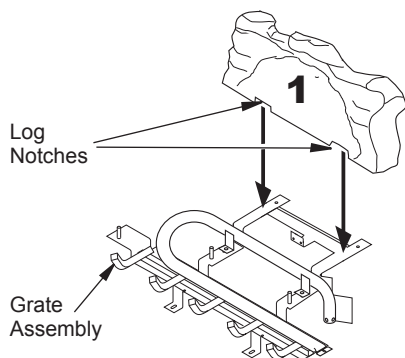

Figure 27 - Installing Log No. 1
1. Find and place log #1 (rear log) on top of grate. Make sure notches in bottom of log fit over grate (see Figure 27).